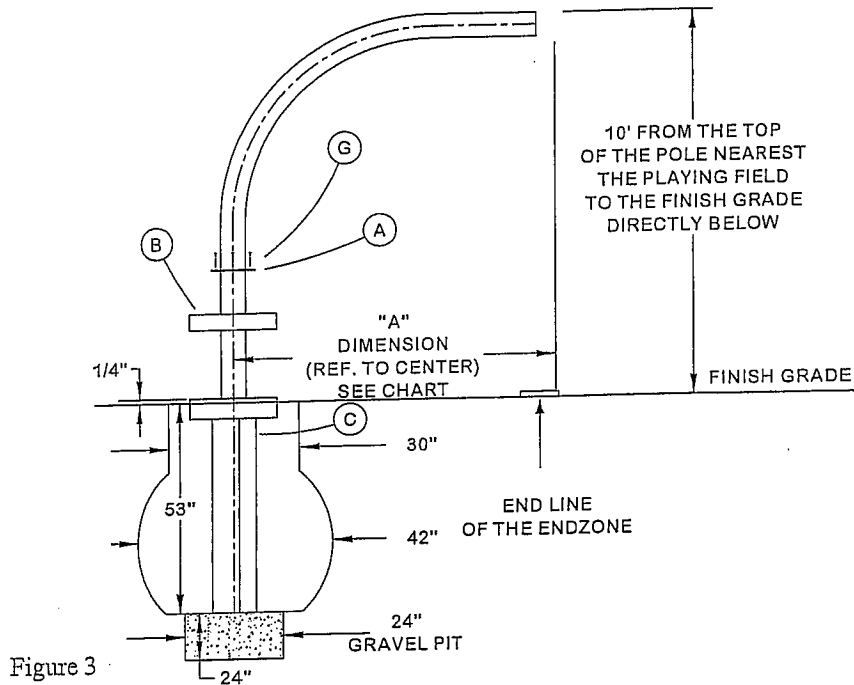

Figure 3
8. Place the pole assembly into the socket. Using the 3/4" x 3" *hex bolts* (I), 3/4" *jam nuts* (J) and 3/4" *lock washer* (K) loosely secure the gooseneck pole so that it is plumb and that the front end of the pole is 5' behind the end line. Two of the 3/4" x 3" *Hex bolts* (I) must go through the holes provided in the *anti rotation collar* (L). (See Figure 3 & 4)
2. You will need to locate each ground socket so that it is centered on the playing field. See chart for the distance behind the field end line to locate the center of the socket for each model. Dig a 30" diameter hole that is a minimum of 53" deep at each of these locations, it is recommended to bell out the bottom of the hole to 42" in diameter to strengthen the footing, and to dig a 24" diameter gravel pit 24" deep. (See Figure 3)
4. Before mixing the concrete place the ground socket in the hole on top of the gravel pit that you prepared. This will prevent the concrete from entering the tube, and allow future water drainage. Position the socket so that it is level, plumb and square with the field. The top of the square pan should be approximately a 1/4" above the finish grade of the playing field. (See Figure 3)